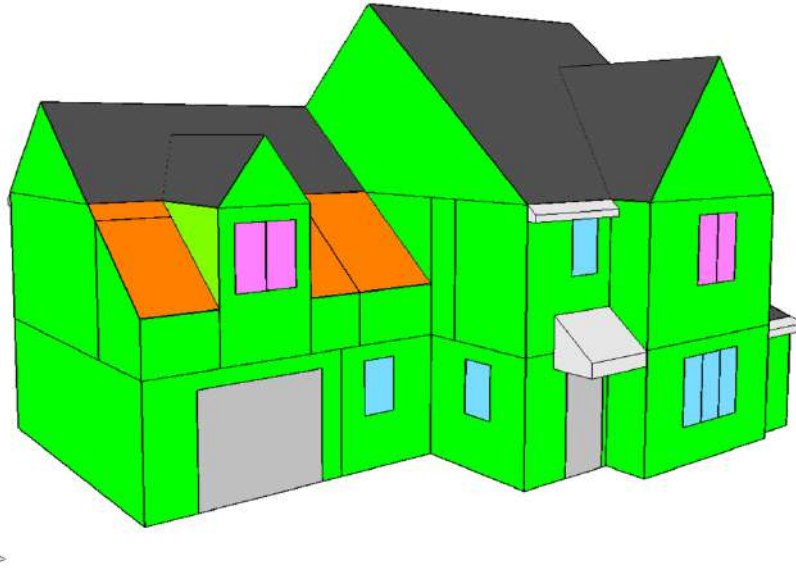

Figure 1: Front elevation to type C2 showing solar glazing to Beds 1 & 2 only
10. See Figure 1 for locations for glazing.
What is the overall overheating strategy (i.e. what design features are key to the project passing)?	1. Ensure adequate opening casement for natural ventilation complies with Part F. 2. Ground floor windows open by 70 degrees. 3. Upper floor windows open to a depth of 650mm from inside face of external wall. 4. Upper floor window sills modelled as being 1000mm from finished floor level. If not achieved, then they will need internal guarding to 1000mm from FFL. 5. Bedroom windows modelled closed at night due to external noise issues. 6. Continuous ventilation to achieve up to 0.45 air changes per hour. 7. Window Glazing 'g' value at 0.66. 8. Rear rooflight glazing 'g' value = 0.45. 9. Bedrooms 1 & 2 only glazing 'g' value = 0.50. 10. See Figure 1 for locations for glazing. 11. Mechanical purge ventilation required to rooms and rates as set out in table 3 at the back of this report. Noise limit for purge fan to be maximum 40 dB.